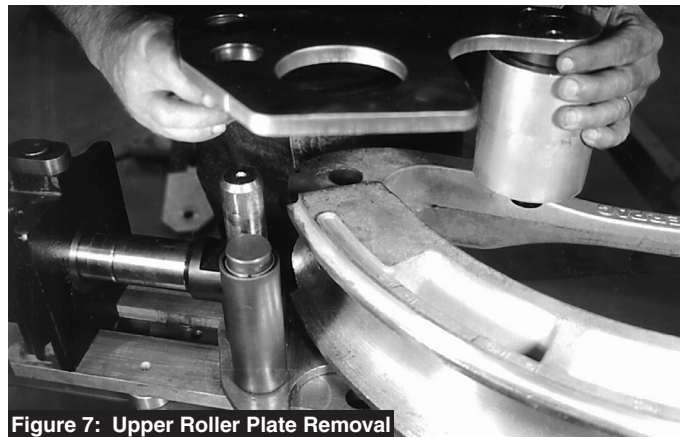

Figure 7: Upper Roller Plate Removal
7. Remove the upper roller and plate assembly by pulling straight up. The upper plate and large aluminum roller are a single assembly. Figure 7.